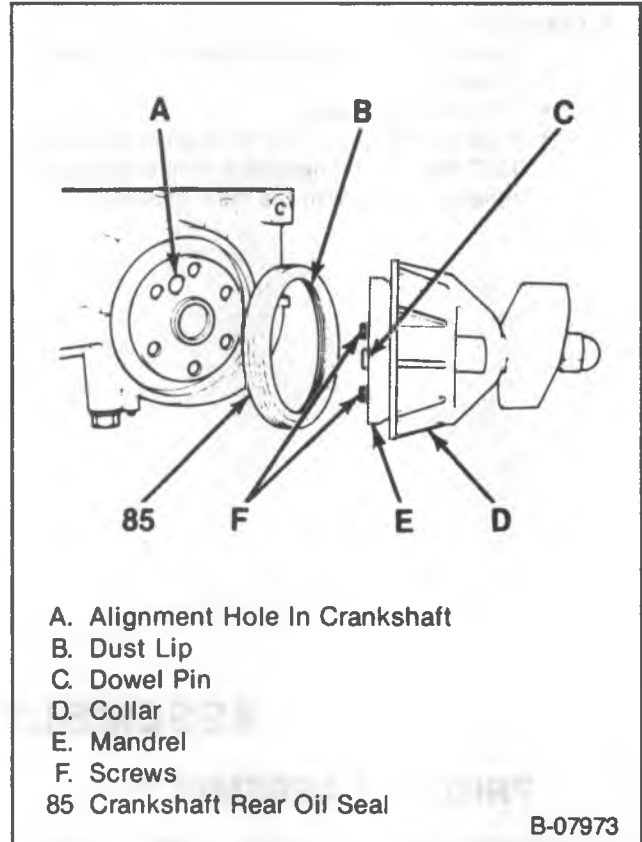

Figure 31—Installing the Crankshaft Oil Seal
2. New seal over the mandril of J 34686 until the dust lip (back of the seal) bottoms against the collar of the tool (figure 31).